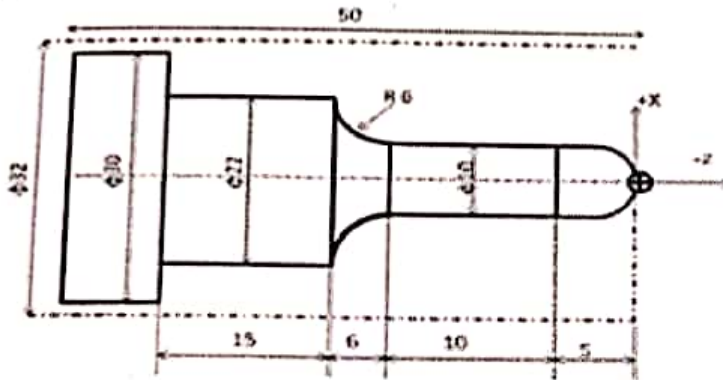

Figure 1
1. Write a CNC program using appropriate G and M code to turn component as Shown in Figure 1. Raw material: MS  $\Phi 32 \times 50$  mm, cutting speed  $V = 40$  m/min and feed = 0.1, Assume suitable data for depth of cut.